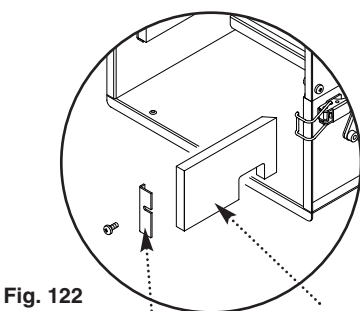

Fig. 122
1. Remove the right hand side insulation carrier bracket by releasing the screw. Remove the side insulation panel (Fig. 122).
3. Remove the right hand side insulation carrier bracket by slackening the screw. Remove the burner. Remove the side insulation panel (Fig. 122).